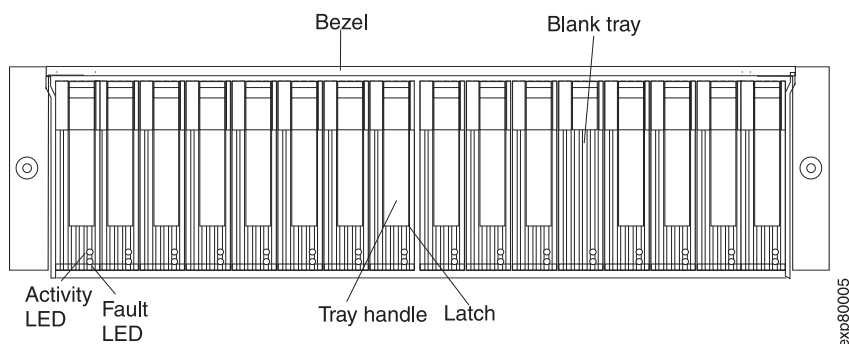

Figure 34. Hot-swap E-DDM LEDs
2. Check for Fault LEDs shown in Figure 34 on page 74. If any amber LEDs are lit, see “Solving problems” on page 95.